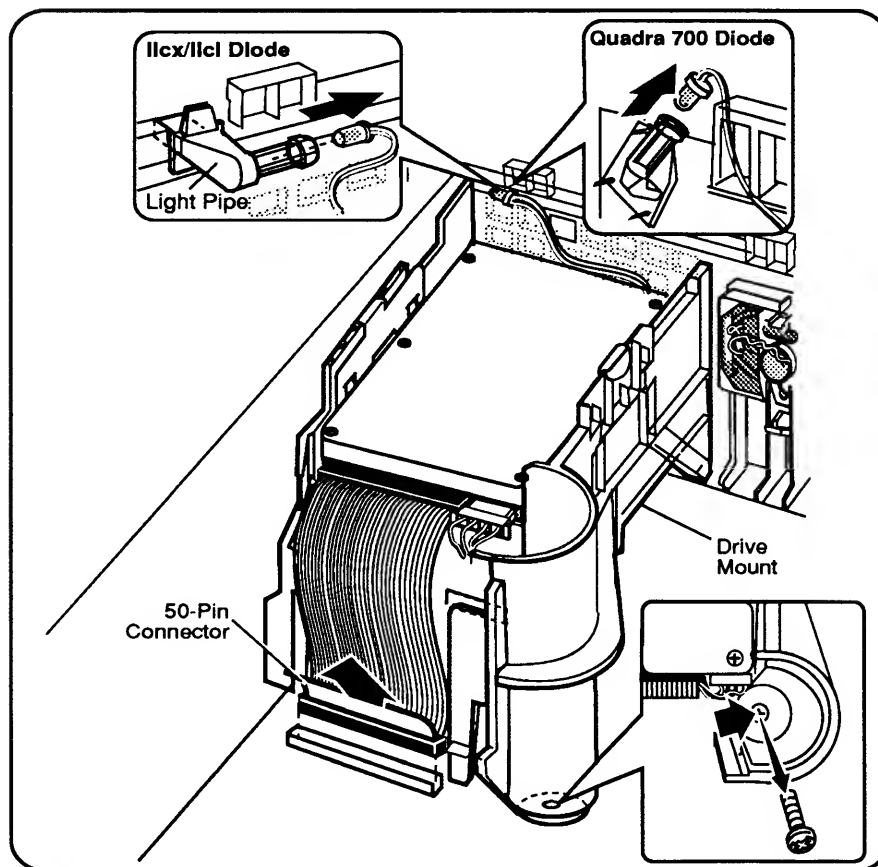

Figure 2-11 Disk Drive Mount
To remove the floppy disk drive, you must remove the entire plastic disk drive mount (**Figure 2-11**) that holds the hard disk drive and the floppy disk drive.
3. Remove the Phillips screw (**Figure 2-11**) from the disk drive mount.
4. Remove the diode from the lens (see **Figure 2-11**).
5. Pull up on the 50-pin connector tab (**Figure 2-11**) to disconnect the signal cable from the main logic board.